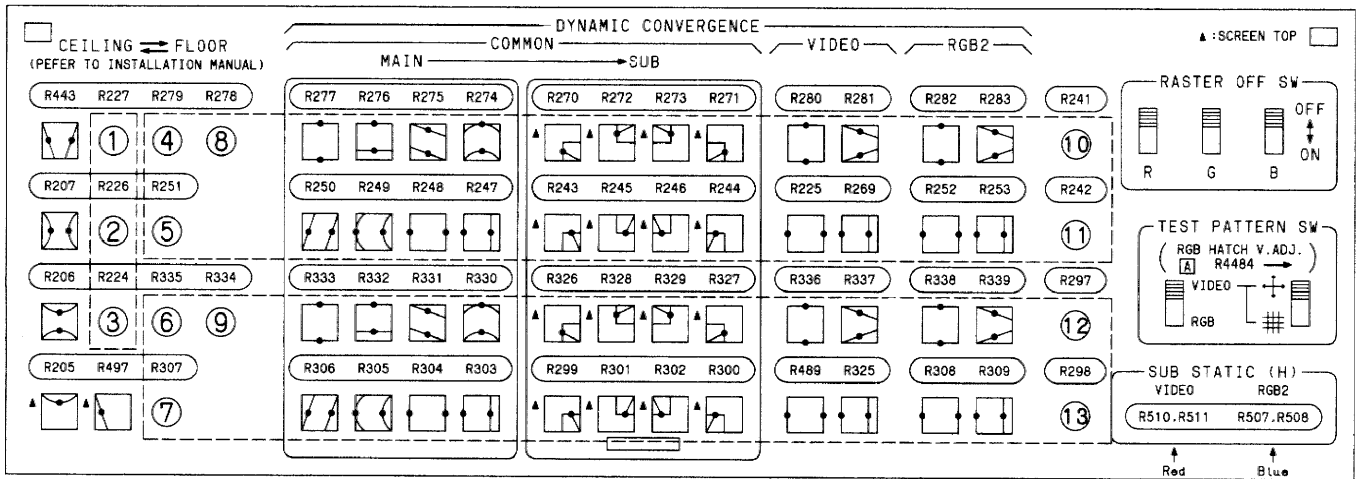

Fig. 48
There are two major types of convergence VRs, namely convergence VRs (user controlled VR) and dynamic convergence VRs (installer adjusted VR). Fig. 48 shows the locations and types of convergence VRs used.
vergence VRs (installer adjusted VR). Fig. 48 shows the locations and types of convergence VRs used.
(1) Raster adjustment --> Basically, R443, R207, R206, R205 and R497 shown in Fig. 48 are used for raster adjustment.
Raster and dynamic convergence adjustments are made basically using the VRs shown in Fig. 48, but the follow-
ing auxiliary VRs are provided as well (shown in Fig. 48) as ① through ⑬: